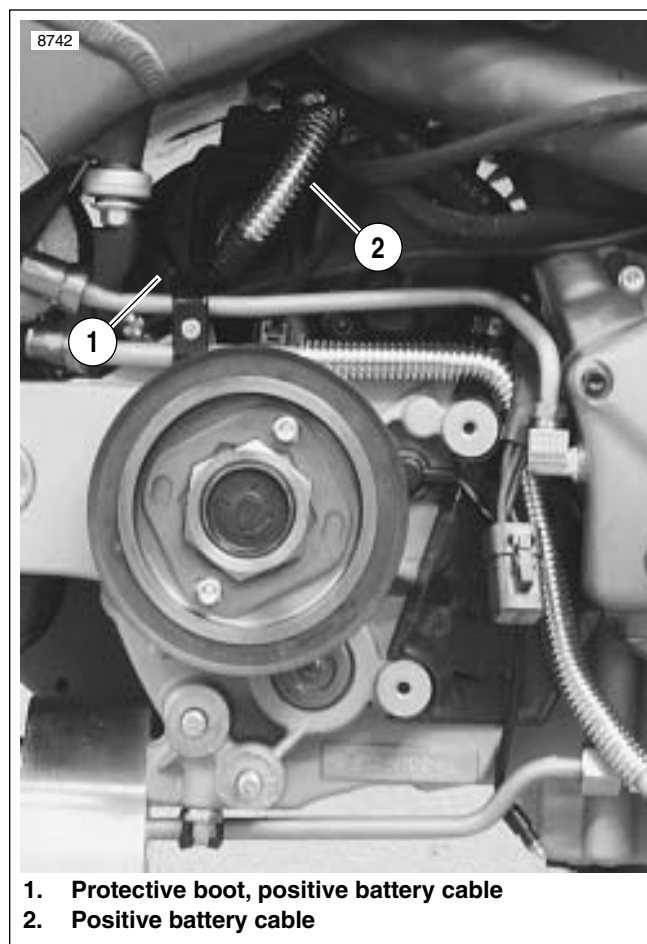

Figure 7-82. Positive Battery Cable
8. See Figure 7-82. Disconnect positive battery cable from starter.